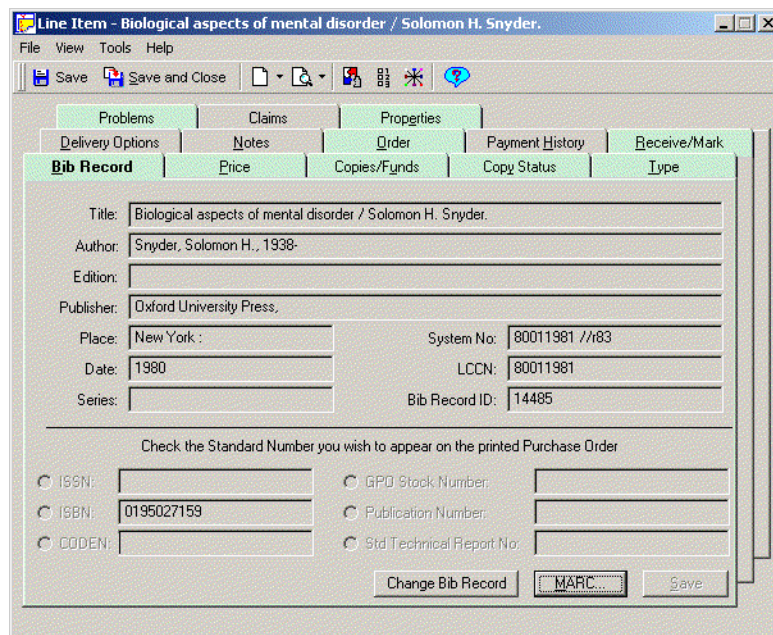

Figure 13-4. Line Item dialog box - Bib Record Tab
- The **MARC** button on the **Bib Record** tab (Figure 13-4) of a line item, which displays brief descriptive data from the bibliographic record associated with the line item. See Bib Record Tab on page 6-37 for more information.